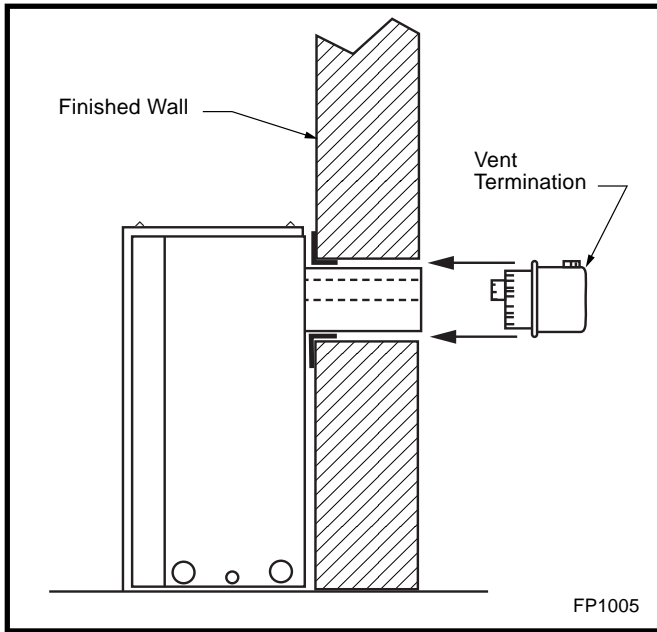

Fig. 17 Side view of final unit location.
Slip 4" and 7" pipes onto respective flue collars. Make sure to fix to the fireplace collar the 4" pipe with three (3) screws before fixing the 7" pipe on the 7" collar. Both pipes must be on a level plane. (Fig. 17)
Guide the vent termination 4" collar into the 4" pipe then the 7" collar into the 7" pipe. Do not force the venting into position. If the pipes do not line up with the termination collars, disassemble pipes and reattach to the fireplace collar. (Fig. 17)